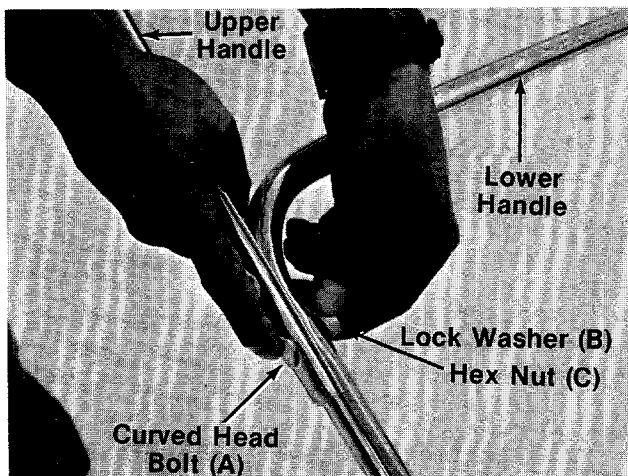
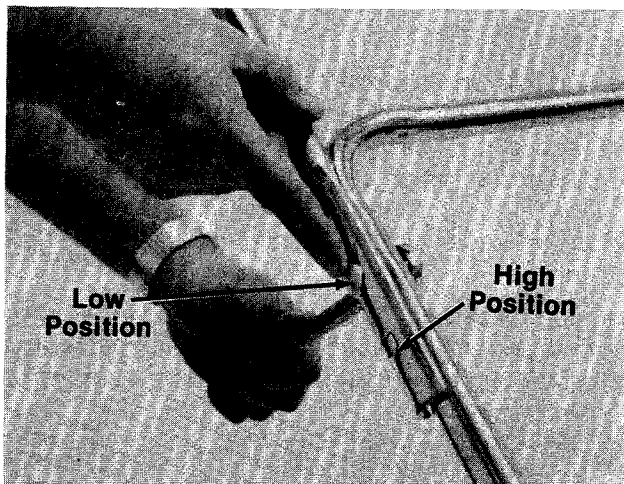

FIGURE 3.
FIGURE 8.
- ← 4. There are two height positions for the handle. Place upper handle in position over lower handle, selecting hole for either high or low position. See figure 8. Secure with two curved head bolts (A), lock washer (B) and hex nuts (C) as shown in figure 3. Tighten securely using a 1/2" wrench.
The upper handle can be adjusted to a high or low position. The adjustment is made by removing the hex nuts, lock washers and curved head bolts and reassembling in the other position. A 1/2" wrench is required. See figure 8.